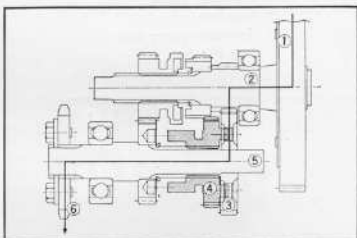

Fig. 3.93 Low gear
**2. Operation (C 90)****Low : (Fig. 3.93)**